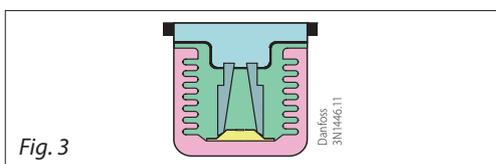

Fig. 3
3. Fig 3. Sensor in hermetically sealed thermostatic element.